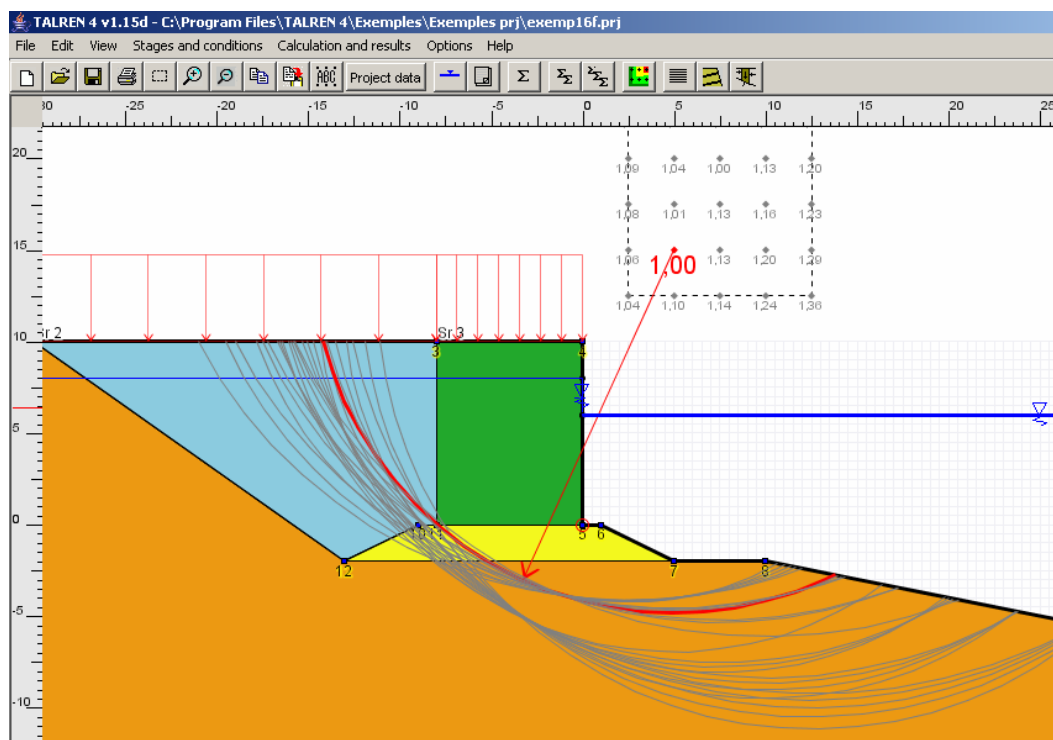

Figure 109: display of all calculated circles
- All calculated circles (Figure 109);